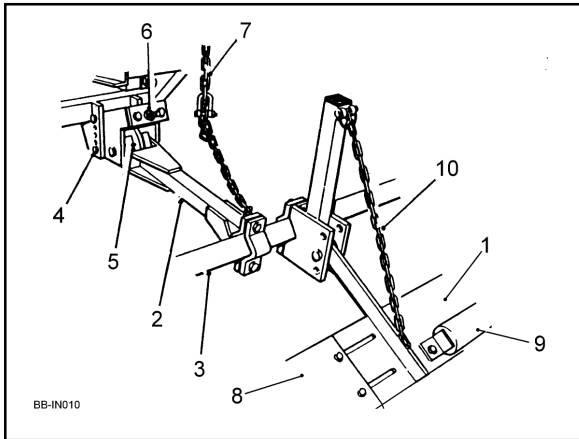
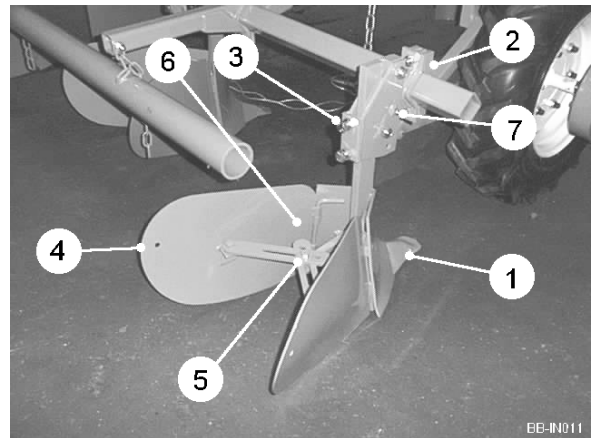

Fig 9
Fig 10
The ridge shape and size is controlled by the height and width of the bed forming board (item 1, figure 9), the setting of the ridgers (item 1, figure 10), and the spring pressure exerted on the trailing arms (item 2, figure 9) and tool bar (item 3, figure 9).
The height at which both the board and the ridger bodies operate can be varied by removing the bolts (item 4, figure 9) and repositioning the trailing arms (item 2, figure 9) to align with a different hole. The arms should run parallel to the ground during work. The pressure exerted by the torsion springs (item 5, figure 9) is adjusted by repositioning the adjuster rod locknuts (item 6, figure 9). Shortening the adjuster rods will increase the spring pressure. Adjust both sides equally.
The chains (item 7, figure 9) should be set to allow the ridgers and bed forming board some free downward float when raising the planter out of work at the end of each row, the ridgers can then be drawn forward to cover the remaining uncovered sets in the row before raising the planter fully and making the headland turn. Adjust the locknuts/chains accordingly.
To adjust the width of the bed forming board (item 1, figure 9), slide the board extensions (item 8, figure 9) to the required position. The weight (item 9, figure 9) flattens the bed. By adding extra weights the bed can be flattened further. The chains (item 10, figure 9) hold the bed forming board at the required height. The chains are also used to hold the board in the raised transport position.
The ridger bodies (item 1, figure 10) create the sides of the bed. The position of the ridger bodies relative to the board can be adjusted by loosening the retaining bolts (item 2, figure 10) and sliding the ridger units along the tool bar. The position of the ridger units is important to ensure a nicely formed bed. Leaving a large gap between the ridger units and the board will cause a ridge to be formed on top of the bed.
The height of the ridger bodies can be adjusted by loosening the retaining bolts (item 3, figure 10) and then raising or lowering each unit. The angle at which the ridger bodies operate can be altered in the same way. To adjust, loosen one bolt and then tighten the other. Which bolt to tighten and which to loosen depends on the required direction of tilt.
The wings (item 4, figure 10) can be adjusted by loosening the securing bolt (item 5, figure 10) and pulling them apart or pushing them together. In addition, the wings on some ridgers can be raised or lowered by loosening the bolt (item 6, figure 10). The lower the wing is positioned, the less soil will be lifted.
Each ridger body is protected by a shear bolt (item 7, figure 10). If the ridger hits an obstruction the bolt will break and allow the ridger body to swing backwards so avoiding any serious damage to the machine.